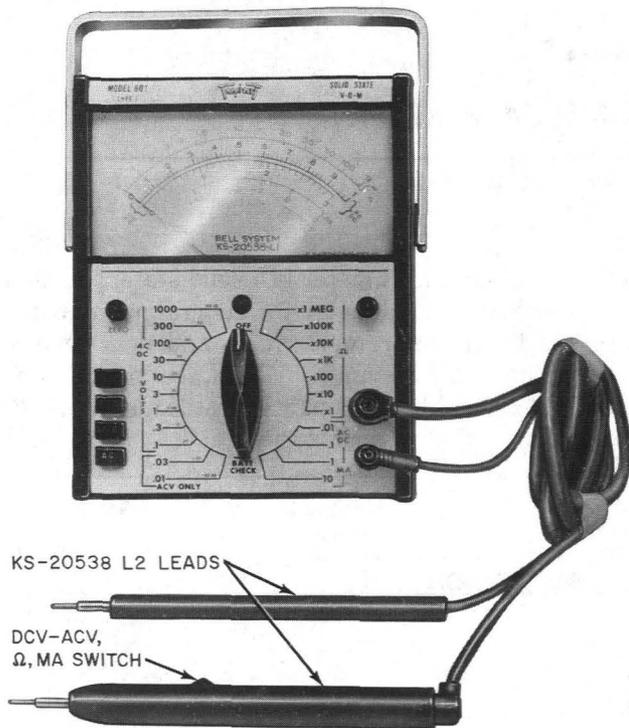

Fig. 1—KS-20538 L1 Volt-Ohm-Milliammeter with KS-20538 L2 Leads
**2.01** The meter illustrated in Fig. 1 is provided with the following ranges, available by means of a range switch: